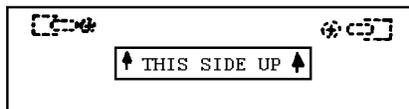

Figure 7
- 6.2.8 Insert the battery, on its side, into the battery tray noting the positioning of the label on the bottom of the battery. See Figure 7.